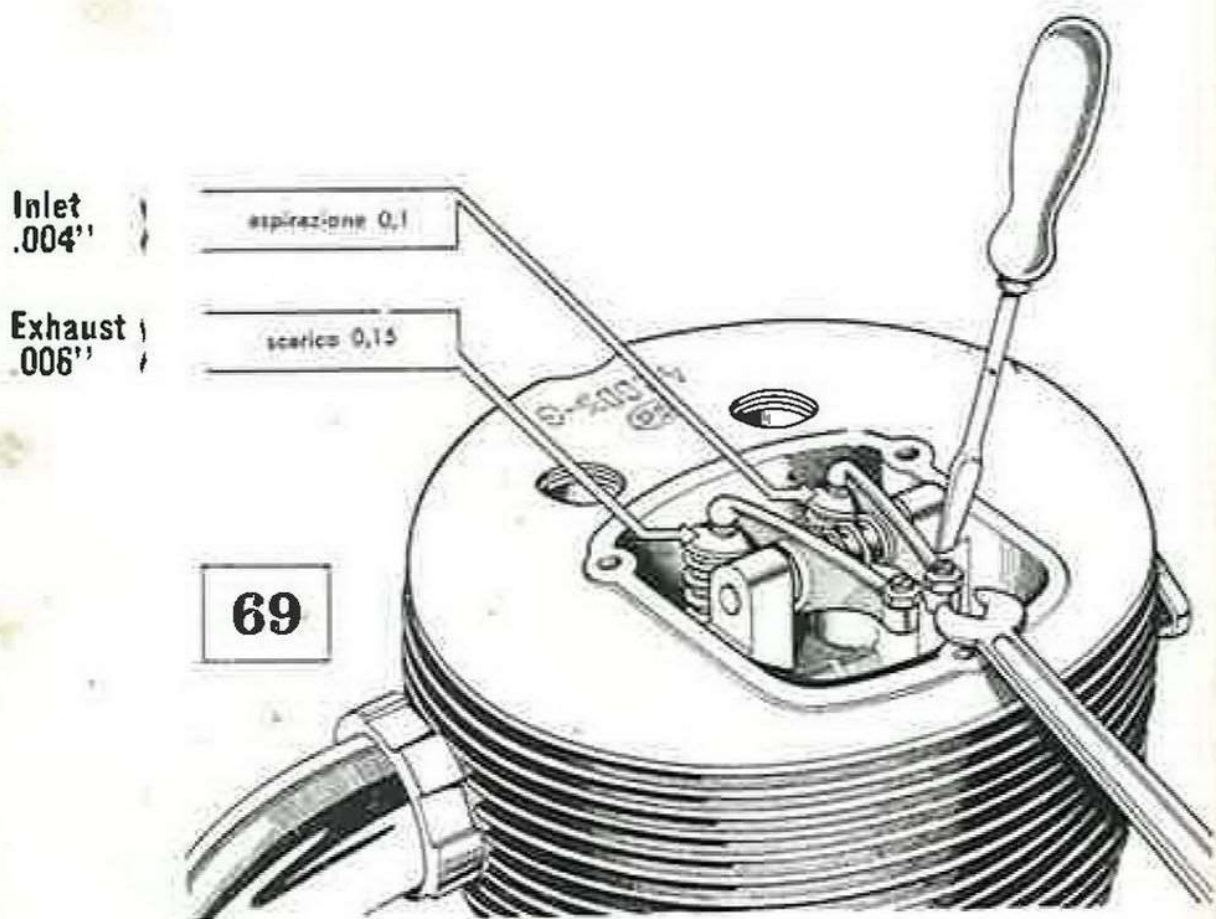

Fig. 11
- 2. Adjust the clearance between the rockers and valve** (See Fig. 11).